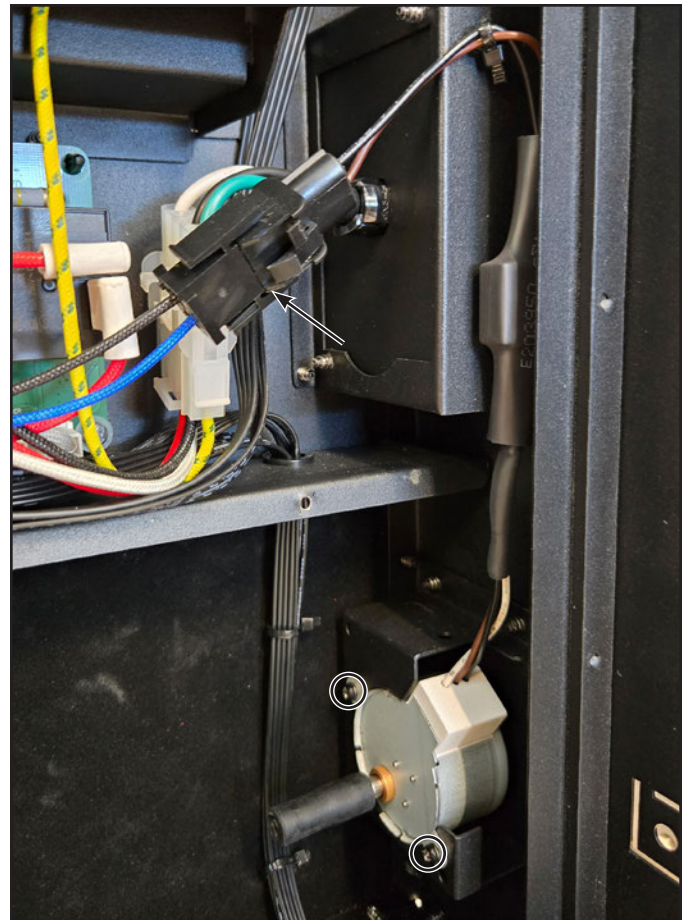

Figure 23 Rotisserie Motor and Connector
5. Remove the two (2) screws connecting the rotisserie motor to the appliance. See Figure 23.